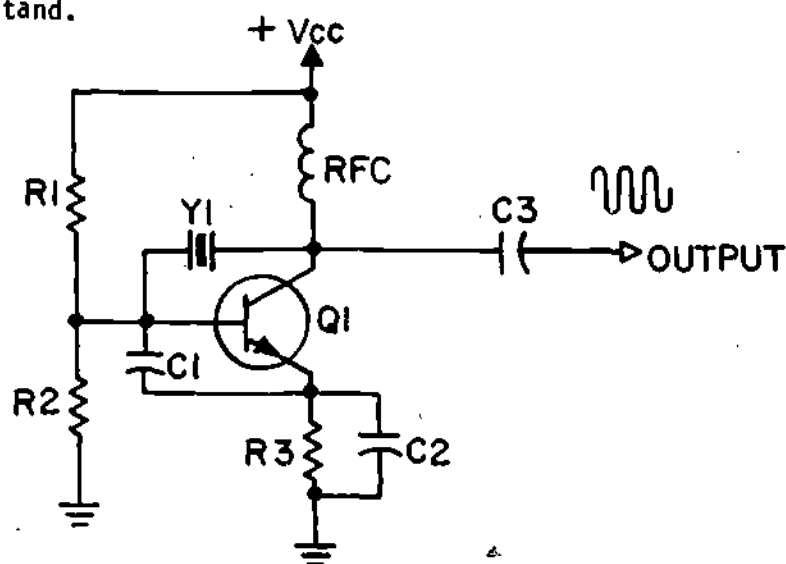

Figure 15
16. The operation of the Pierce oscillator circuit shown in Figure 15 is not hard to understand.